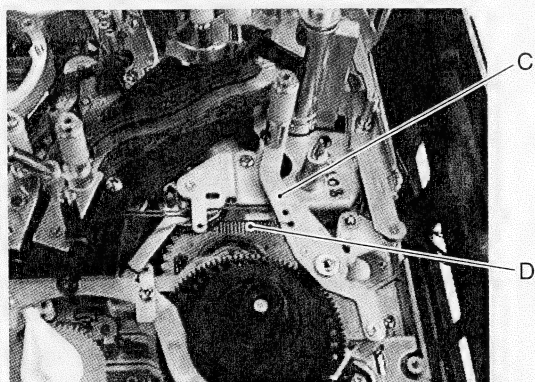

Fig. 2-7-46
4. Attach spring D to the take-up tension arm assembly C (see Fig. 2-7-46).